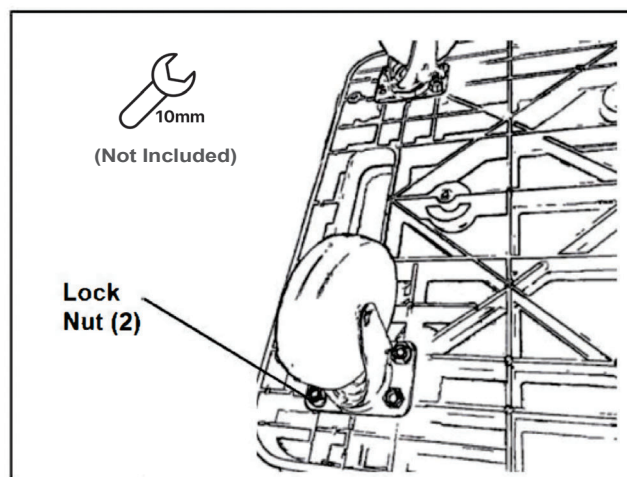

Figure 3
4. Flip over the platform (6), place mounting plate of the castors (3 and 4) onto the Bolts (1), make sure that the two Swivel castors (4) will be mounted in the front side of the Platform (front side has handle), and the two Rigid castors will be mounted in the rear side. Secure the all Wheels with Lock Nuts (2). (See Figure 3). 10mm wrench (not included) is require for this assembly step.